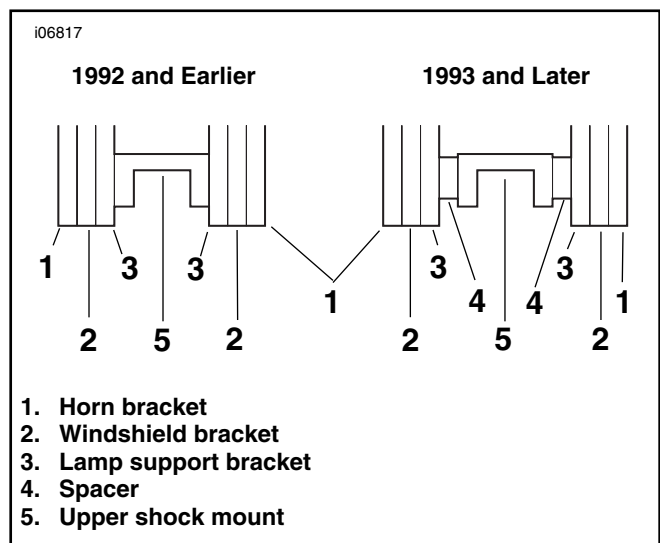

Figure 2. Support, Windshield and Horn Combination
**Without horn kit:** See the Service Parts illustration. Select the 3/8"-16 x 2-1/2 in. cap screw (9) from the auxiliary lamp kit.
2. With the auxiliary lamp support bracket (7) positioned with the wiring holes facing downward, assemble the support bracket and accessories in combination to the upper shock mount sliding the selected screw through the combination.
**For the combination of support bracket, windshield and horn:** See Figure 2.